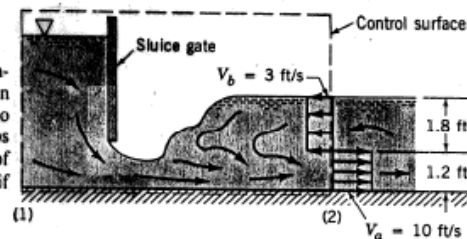

FIGURE P4.51
4.51 In the region just downstream of a sluice gate, the water may develop a reverse flow region as is indicated in Fig. P4.51 and Video V10.5. The velocity profile is assumed to consist of two uniform regions, one with velocity $V_a = 10$ fps and the other with $V_b = 3$ fps. Determine the net flowrate of water across the portion of the control surface at section (2) if the channel is 20 ft wide.